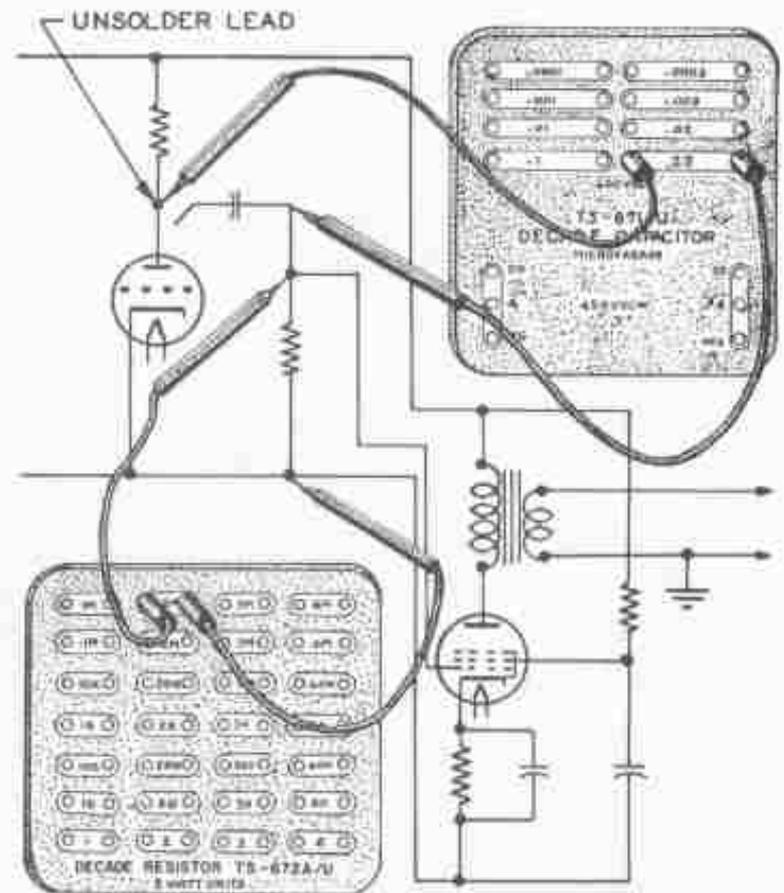

Figure 4-14. Substituting Decade Resistor and Decade Capacitor in an Electronic Circuit
(1) The Decade Resistor and Decade Capacitor can be used individually for substitution tests in any electrical circuit, provided the ratings as given in table 1-4 are not exceeded. To check a capacitor by the substitution method, one lead or connection of the suspected component must be unsoldered and the proper value from the Decade Capacitor connected into the same position in the circuit by means of electrical leads. If one side of a component is at ground voltage level, only the high side should be unsoldered. This will lower stray capacitances. The stray capacities created by the addition of leads and Decade boxes may interfere with the operation of critical circuits. To check a resistor by the substitution method, the value of resistance from the box should be selected and inserted across the resistor. Figure 4-14 shows the method of substituting both units.
(2) Both units can be connected in series and used as an RC time constant or phase shift network.